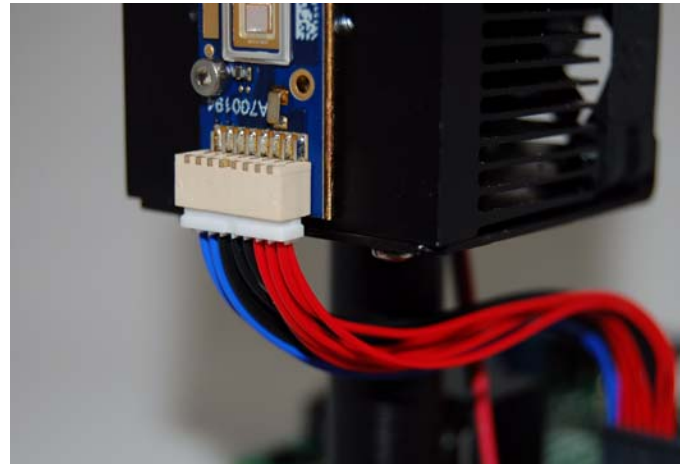

Figure 11: CBT-54 LED to driver board cable interface
2. Attach all of the wiring included in the kit. The short, 3" cable connects the LED (C21 package types only) to the driver board as shown in Figures 11 and 12. For C11 pack-